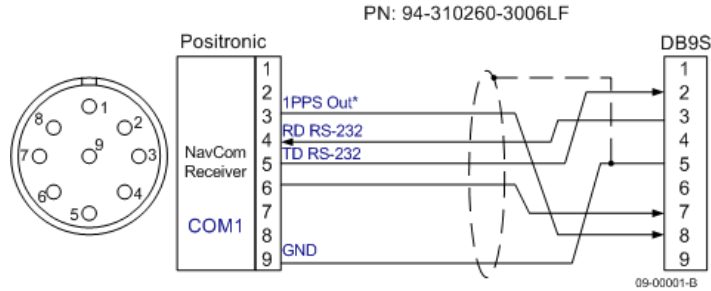

Figure 85: COM1 Serial Cable Pin Assignment
- ✓ Positronic 9-Pin Male to DB9S (RS-232/RS-422/ 1PPS) (P/N 94-310260-3006LF): constructed as described in Figure 85 and Figure 86.